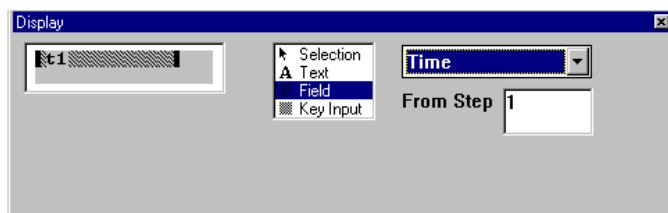

Figure 2-54 Display - Time Field Object
- The field object indicator changes from **i1** to **t1** (Figure 2-54). A **t1** indicates that the time from the Step 1 Input Handler will be displayed here.